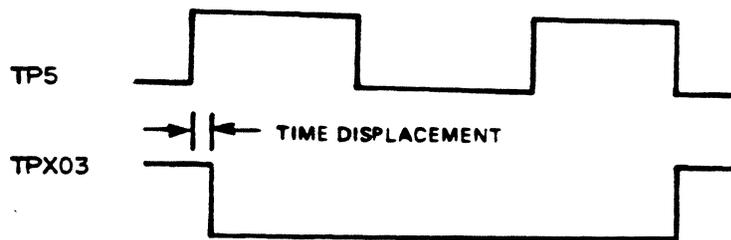

Figure 5-5. Output Waveforms (TP103, TP203, TP603, TP703)
- b. Using the front panel LOAD maintenance switch, run the tape forward. Observe the time displacement between the two signals displayed on the oscilloscope (figure 5-5). Calculate the amount of displacement (refer to table 5-6).
- b. Use the LOAD switch to run the tape forward and monitor TP103 through TP903 with channel B of the oscilloscope. Record the time displacement between channels A and B of the oscilloscope (figure 5-5).
- d. Using the maintenance switch SW1, run the tape forward. Observe the time displacement between the two signals displayed on the oscilloscope (see figure 5-5). Calculate the amount of displacement (refer to table 5-6).